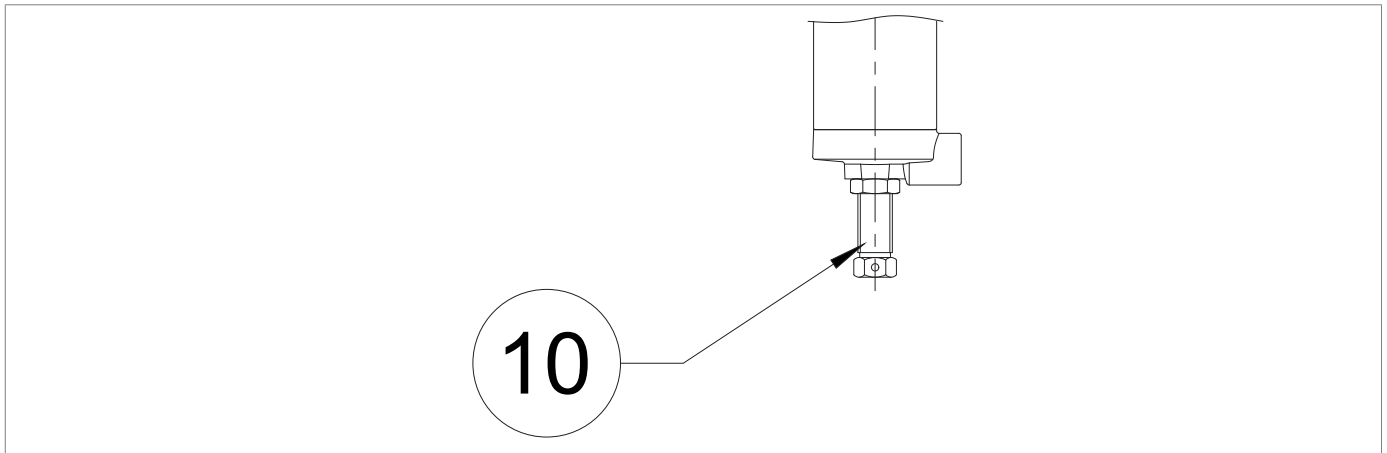

Fig. 8.30. 200/A series pilots
2	Completely unscrew the fixing nut and the adjustment screw (Fig. 8.30) of the pilots (3, 11) to relieve the spring.
3	Completely compress the pilot spring (3) by turning the adjusting screw (Fig. 8.30) clockwise.
4	Completely relieve the pilot spring (11) by turning the adjusting screw (Fig. 8.30) anticlockwise.
6	Turn the adjustment screw (Fig. 8.30) on the monitor pilot (11) clockwise to increase the downstream pressure value to the selected monitor operating value. <div style="border: 1px solid black; padding: 5px;">  NOTICE! Check the pressure referring to the pressure gauge (5) located upstream. </div>
7	Turn the adjusting screw (Fig. 8.30) on the pilot (3) anti-clockwise to relieve the calibration spring until the pre-set downstream pressure value has been reached.
13	Insert and secure the adjusting screws with the fixing nuts (Fig. 8.30) of the pilots (3, 11).
4	Completely relieve the pilot spring (10) by turning the adjusting screw (Fig. 8.30) anti-clockwise.
7	Slowly increase the downstream pressure by turning the adjusting screw (Fig. 8.30) of the monitor pilot (10) clockwise until the setpoint pressure of the M/A throttle valve (11) is reached. NOTICE! Check the pressure referring to the pressure gauge (5) located upstream.
9	<p>Turn the adjusting screw (Fig. 8.30) on the monitor pilot (10) anti-clockwise to decrease the downstream pressure value to the selected monitor operating value.</p> <div style="border: 1px solid black; padding: 5px;"> <p>! NOTICE!</p> <ul style="list-style-type: none"> • Ensuring that the M/A accelerating valve (11) has interrupted the gas discharge; • Check the pressure referring to the pressure gauge (5) located upstream. </div>
10	<p>Turn the adjusting screw (Fig. 8.30) on the pilot (3) anti-clockwise to relieve the calibration spring until the pre-set downstream pressure value has been reached.</p> <div style="border: 1px solid black; padding: 5px;"> <p>! NOTICE!</p> <p>Check the pressure referring to the pressure gauge (5) located upstream.</p> </div>
16	<p>Insert and secure the adjusting screws (Fig. 8.30) with the fixing nuts of the pilots (3, 10) and the M/A throttle valve (11).</p>
2	Completely unscrew the fixing nut (Fig. 8.30) of the pilot screw (3).
3	Completely relieve the pilot spring (3) by turning the adjusting screw (Fig. 8.30) anti-clockwise.